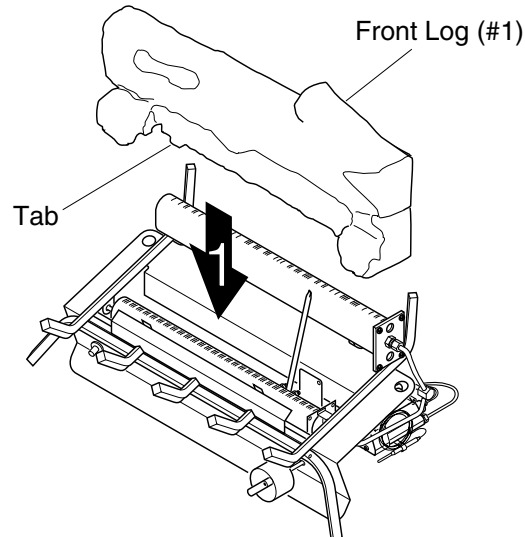

Figure 17 - Installing Front Log
1. Slide front log (#1) into place behind front burner. Make sure tabs at bottom of log are behind front burner (see Figure 17).